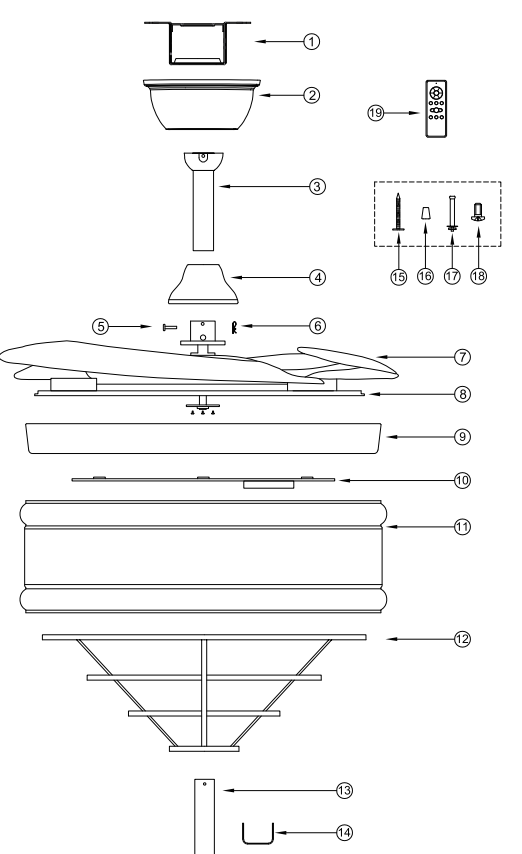

FIGURA 1
2) RETIRE EL DOSEL PARA CIELO RASO (NO. 3 - FIGURA 1) AFLJANDO LOS DOS TORNILLOS CON RANURAS.